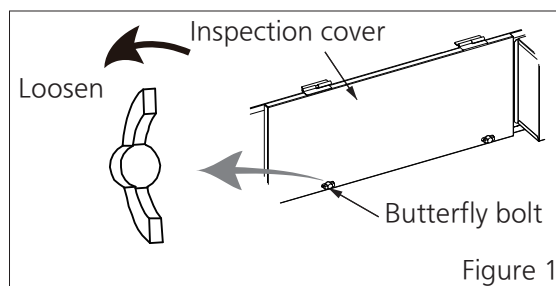

Figure 1
- ① Loosen the butterfly bolts that secure the inspection cover. (Figure 1)